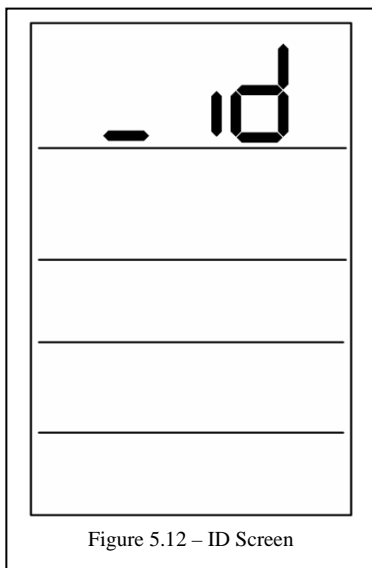

Figure 5.12 – ID Screen
2. Press and hold the ID button on the back of the Display Unit until it beeps (approx. 3 seconds). This will place the Display Unit into ID Mode and it will begin to search for your Sensor Unit. You will see a screen similar to the one shown in figure 5.12, below.